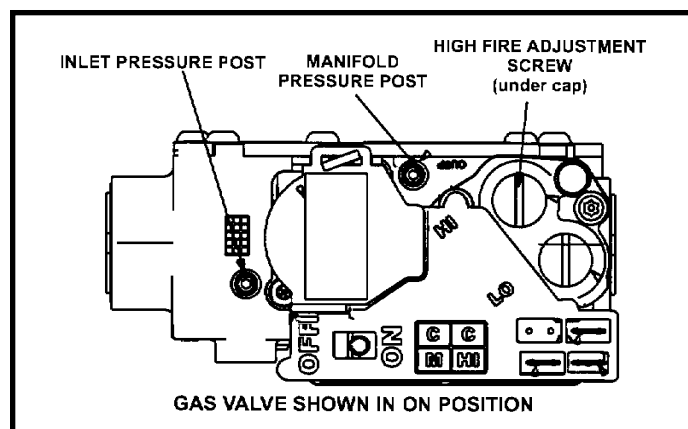

Figure 66
6. Move gas valve switch to **OFF**. See Figure 66.
8. Move gas valve switch to **ON**. See Figure 66.
An inlet pressure post on the inlet side of the gas valve provides access to the supply pressure. See Figure 66. Back out the 3/32 Hex screw one turn, connect a piece of 5/16" tubing and connect to a manometer to measure supply pressure.
1. A manifold pressure post located on the gas valve provides access to the manifold pressure. See Figure 66. Back out the 3/32 Hex screw one turn, connect a piece of 5/16" tubing and connect to a manometer to measure supply pressure.